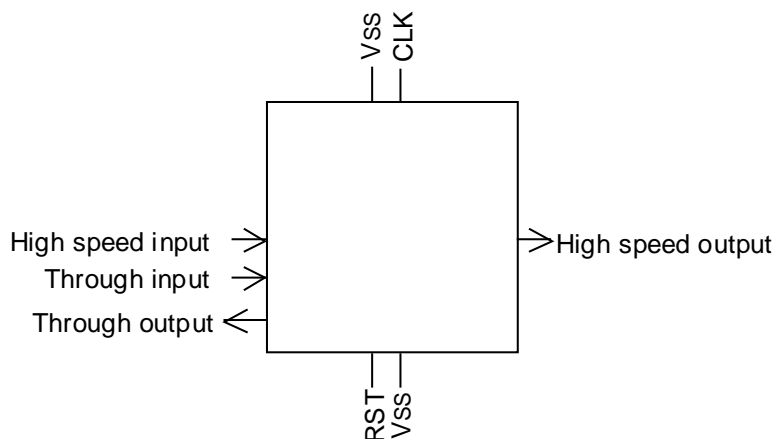

Figure 7-3 Critical Signal Pinout Example 1
- (a) Do not place clock and reset pins, that are vulnerable to noise, close to the output pins, but place them close to the power supply pins. (Figure 7-3)
- (b) Place the high-speed input and output pins in the middle of the IC (package) side. (Figure 7-3)
- (c) When the delay from an input pin to an output pin is hard to meet the customer's specification, place these input and output pins close to each other. (Figure 7-3)